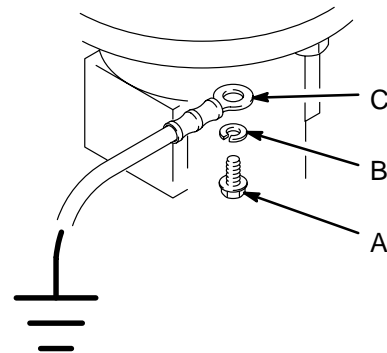

Fig 1
To ground the agitator, remove the grounding screw (A) and lockwasher (B). See Fig 1. Secure the ground wire terminal (C) to the agitator with the screw and lockwasher. Connect the other end of the ground wire to a true earth ground. See page **ACCESSORIES** to order a ground wire and clamp.